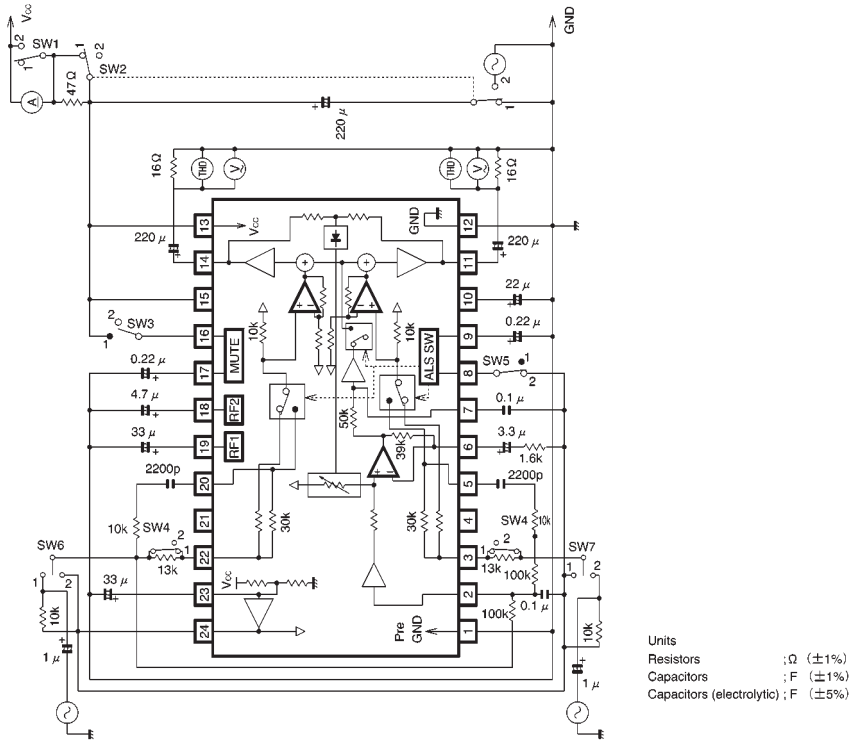

Fig. 1
- Electrical characteristics (unless otherwise noted, $T_a = 25^\circ\text{C}$, $V_{CC} = 3.0\text{V}$, $R_L = 16\Omega$, $f = 1\text{kHz}$, and the measurement circuit is as shown in Fig. 1)